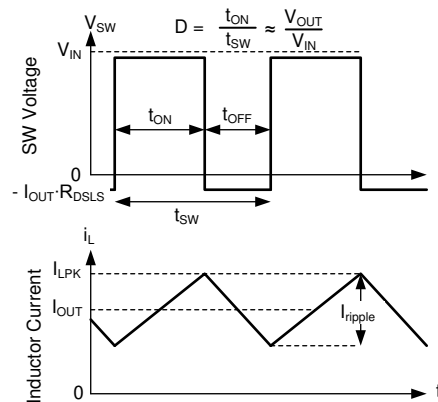

図 7-10. SW Voltage and Inductor Current Waveforms in Continuous Conduction Mode (CCM)
The following operating description of the LM656x5-Q1 refers to セクション 7.2 and the waveforms in 図 7-10. Both supply a regulated output voltage by turning on the internal high-side (HS) and low-side (LS) NMOS switches with varying duty cycle (D). During the HS switch on-time, the SW terminal voltage, V_{SW} , swings up to approximately V_{IN} , and the inductor current, i_L , increases with a linear slope. The HS switch is turned off by the control logic. During the HS switch off-time, t_{OFF} , the LS switch is turned on. Inductor current discharges through the LS switch, forcing V_{SW} to swing below ground by the voltage drop across the LS switch. The regulator loop adjusts the duty cycle to maintain a constant output voltage. D is defined by the on-time of the HS switch over the switching period: $D = T_{ON} / (T_{ON} + T_{OFF})$.